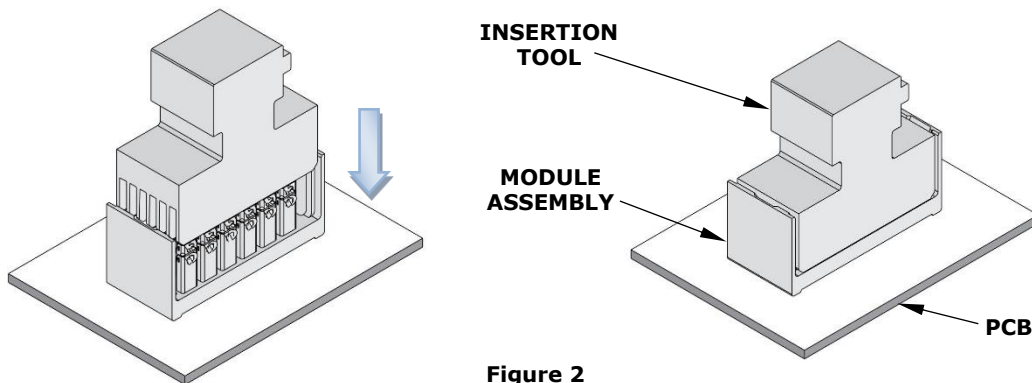

Figure 2
2. Insert the tool into the module. The tool can be inserted in either direction. See Figure 2.